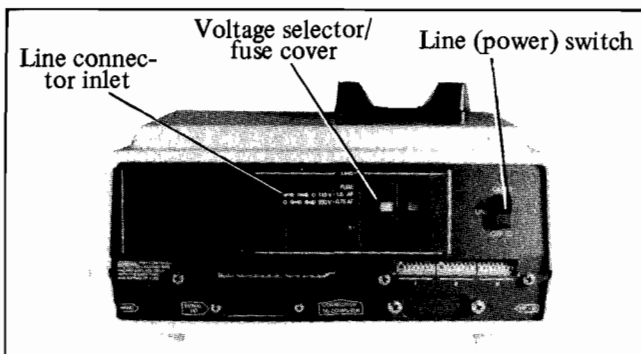

Figure 16-1 Terminal Rear Panel
- 1) Set the rear panel switch labelled LINE to OFF (0). Ensure the power cord is disconnected from the LINE (i.e. power) connector inlet, see figure 16-1.